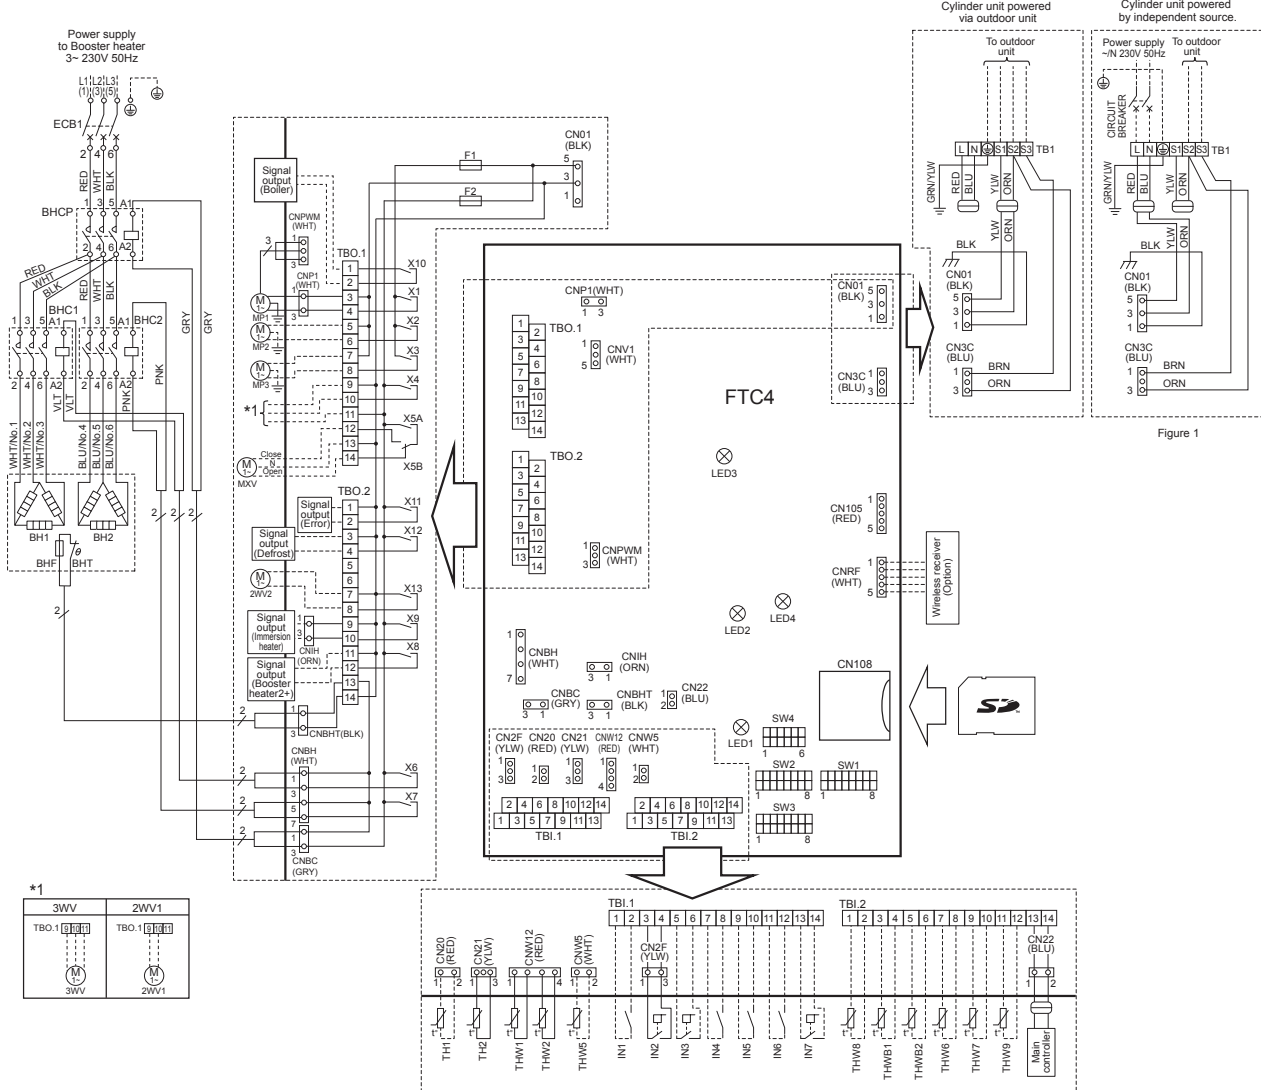

Figure 1
- This diagram shows the wiring of indoor unit and outdoor unit connecting wires (specification of 230V), adopting superimposed system of power and signal. When work to supply power separately to indoor unit and outdoor unit was applied, refer to Figure 1.
4. This diagram shows the wiring of indoor unit and outdoor unit connecting wires (specification of 230V), adopting superimposed system of power and signal. When two to supply power separately to indoor unit and outdoor unit was applied, refer to Figure 1.